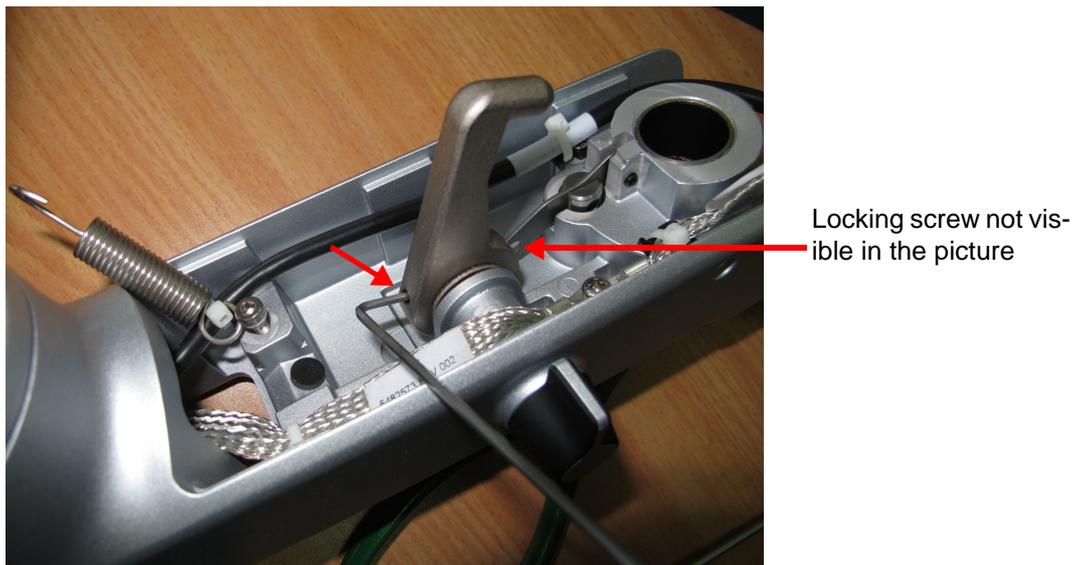

Figure 8-262 Articulated Arm Locking Lever
- 5.) Using the appropriate Allen key loosen, but do not remove, two release lever locking screws as shown in Figure 8-262.